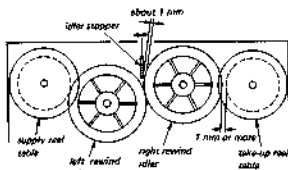

Fig. 4-12. Rewind idler adjustment
1. Set the Function Lever to STOP. Check that the Right Rewind Idler is clear of the Idler Stopper by 0.5 to 1 mm. See Fig. 4-12.